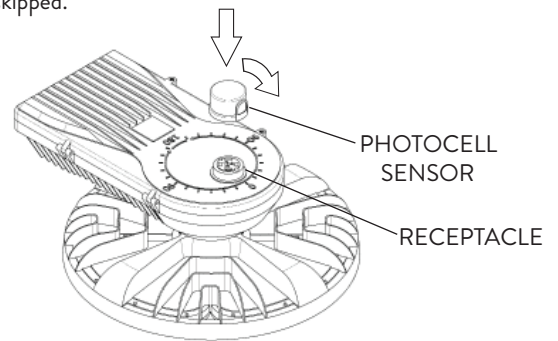

FIG. 2
- 2 The Twist-Lock Photocell Sensor can be easily installed on all FHMA Receptacles. Install the Photocell Sensor provided by carefully pressing down into the socket and twisting CW (Fig. 2). Note: If the Photocell Sensor is not included this step can be skipped. If the Photocell Sensor is included prior to field installation the Initial Set-Up can be skipped.